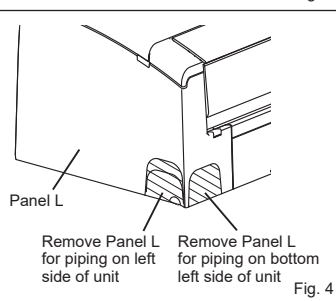
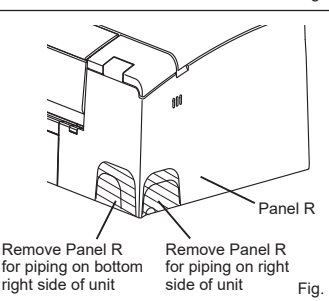

Fig. 4
Fig. 5
- 10) According to the piping direction, remove the shaded part of the panel L (Fig. 4) or panel R (Fig. 5). Reinstall electrical cover and panel assembly.
- Insert the drain hose into wall hole sleeve (C), and attach the upper part of indoor unit onto the installation plate (1). Then, shift the indoor unit completely to the left to make placing the piping in the back of the unit easier.
- Cut out the spacer from the packaging styrofoam and set it on the rib on the back of the indoor unit. (Fig. 5)
- Connect the refrigerant piping with the extension pipe (B).
- Push the lower part of the indoor unit to fit into the installation plate (1), then attach the parts in the opposite steps of removal.